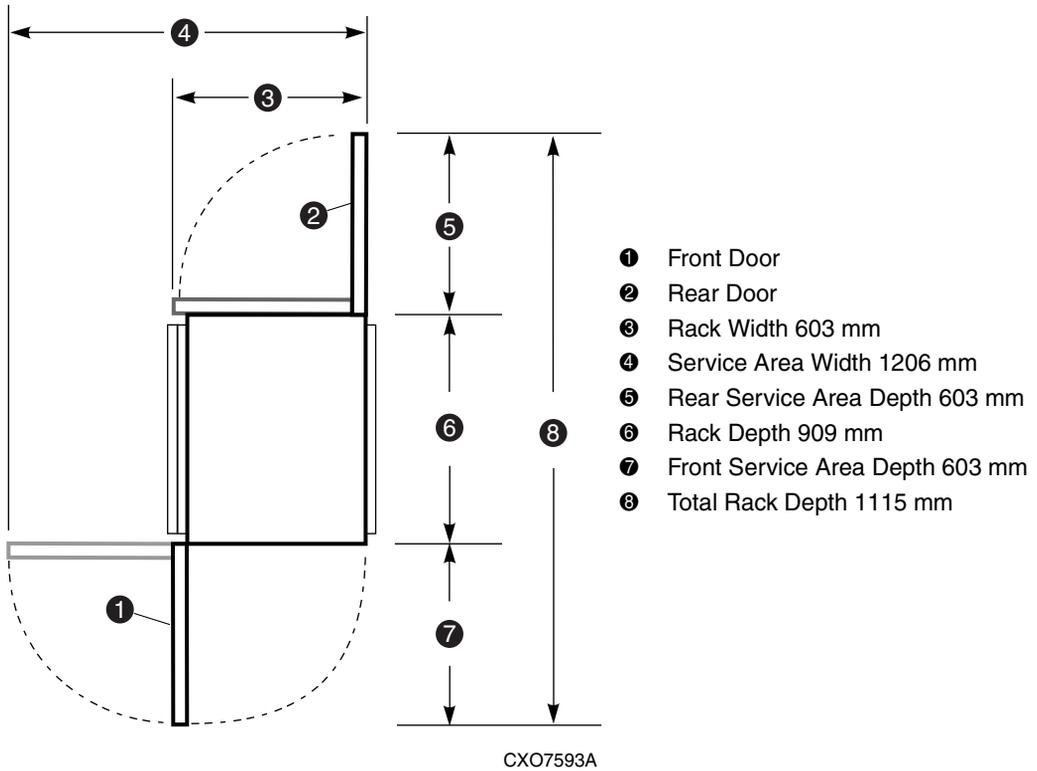

Figure 5-3: Single rack configuration floor space requirements
3. Carefully move the rack to the installation area and position it to provide the necessary service areas (see Figure 5-3).